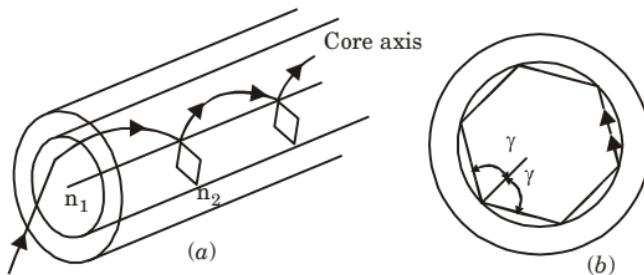

Fig. 1. The helical path taken by a skew ray in an optical fiber:
- From Fig. 1, it is observed that the helical path traced through the fiber gives a change in direction of 2γ at each reflection where γ is the angle between the projection of the ray in two dimensions and radius of fiber core at the point of reflection.